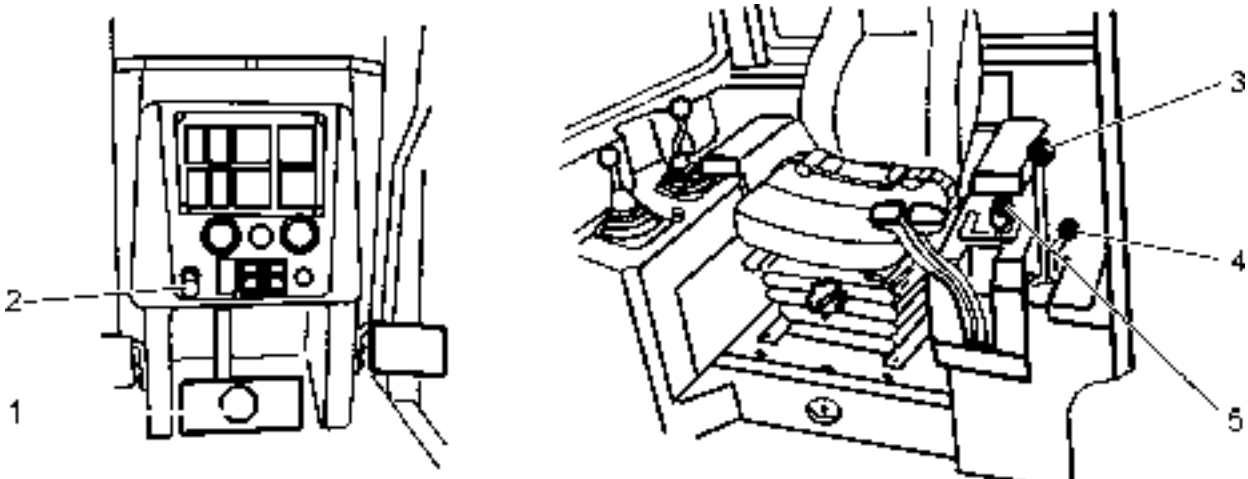

Fig. 4.21. Stopping the Machine
4.15. STOPPING THE MACHINE (Fig. 4.21)